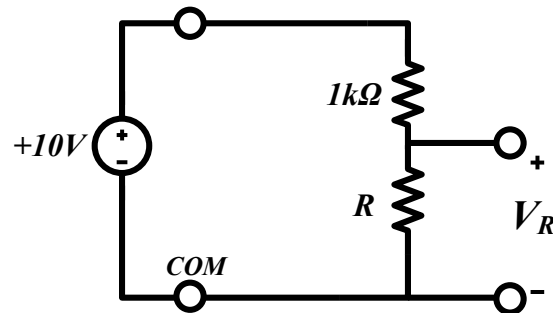

figure 6 (b)
1. With the DMM set to measure DC volts, measure the voltage across R. Fig 6(a) indicates placement of the voltmeter for this measurement. An alternate method for indicating where a voltage measurement is made is shown in fig 6(b). Here the voltage is given a label, V_R in this case, and the polarity of the measurement is defined with + and – signs. The + corresponds to the node where the V/ Ω terminal is connected, and the – corresponds to the node where the COM terminal is connected.